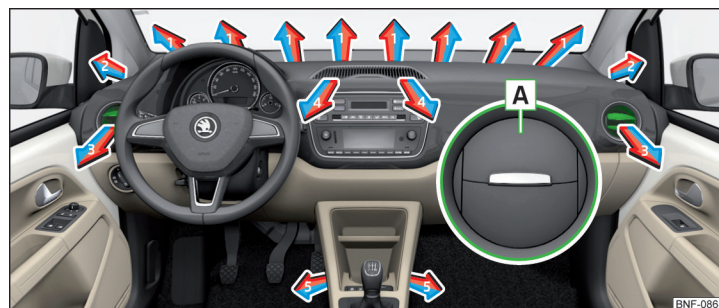

Fig. 91 Air outlet vents
The direction of airflow can be adjusted for the air vents 3 » Fig. 91 and the vents can also be opened and closed individually.
- To **open**, press on the outer edge of the slat in area **A** » Fig. 91.
Set the direction of the air outlet	Air outlet vents » Fig. 91